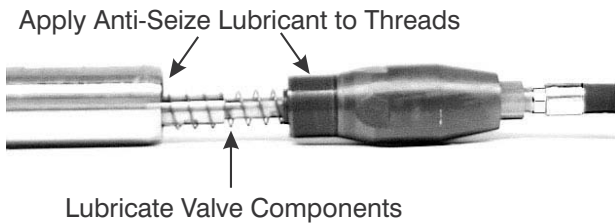

Figure 9-25. Prepare Tail Assembly and Body/Anvil for Assembly
3. Apply anti-seize thread lubricant sparingly to the threads of the End Cap (9) and the Body/Anvil (1). See Figure 9-25.
4. Coat the valve assembly components with hydraulic fluid, as shown in Figure 9-25.